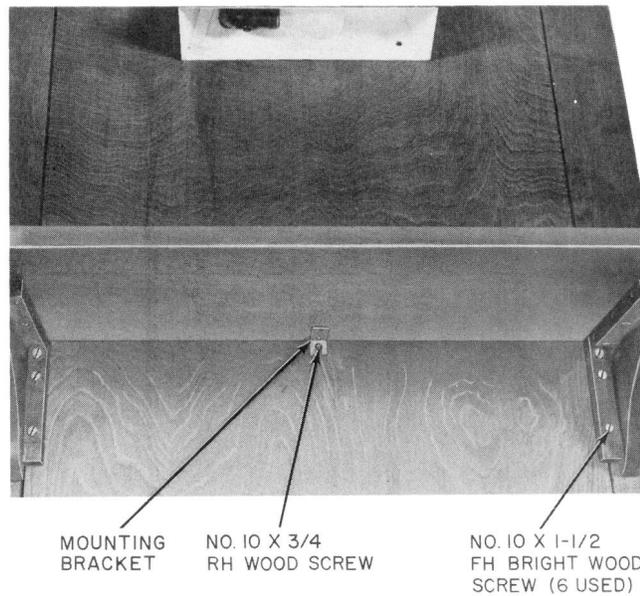

Fig. 8—Bottom View of 11-Type Shelf Installation
3.05 A typical installation is shown in Fig. 8 and 9. Install as follows: